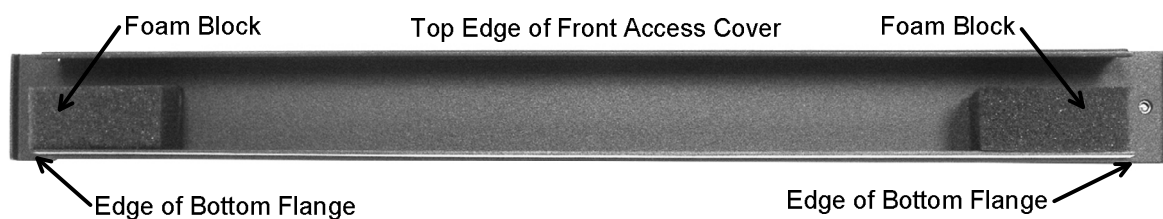

Figure 3-5 Completed Access Cover Modification
13. Inspect your work in accordance with Figure 3-5.